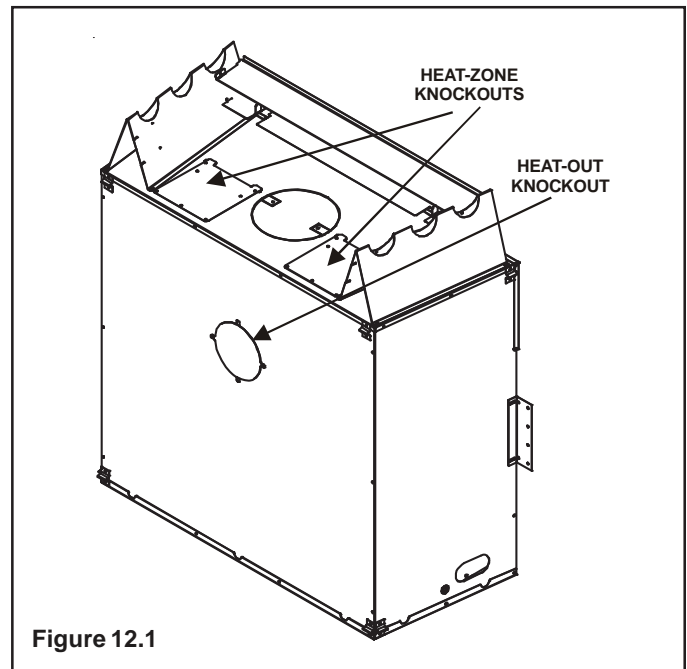

Figure 12.1
- Remove the Heat-Out knockout from the appliance and discard it (see Figure 12.1).
NOTE: Remove the bottom knockout on the collar for typical 2 x 4 inch or 2 x 6 inch wall construction (see Figure 12.1).
- Remove the knockout from the top of the appliance and discard it (see Figure 12.1).